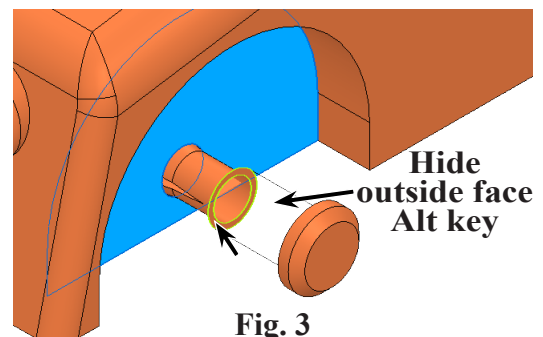

Fig. 3
Step 5. Click **side face of wheel well in Truck** and **hide outside cylindrical side face of Axle**, click **inside face of flat boss on Axle**, **Fig. 3**. To hide face, hover cursor over face and press **Alt** key.